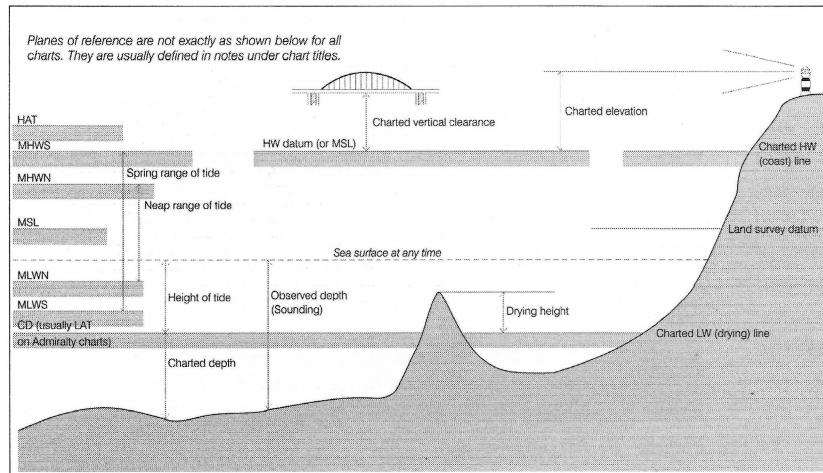

Figure 8: Relationship between different vertical datums.
Figure 8 shows the different types of vertical datum used in the UKHO. The key surface is Chart Datum (CD), which approximates to Lowest Astronomical Tide (LAT). Off this hang the other datums such as Mean Sea Level, Mean High Water Springs (which is used for the coastline and above which heights ashore are charted), Mean Low Water Springs, etc.